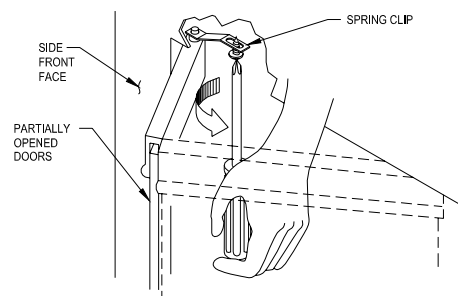

Figure 14 - Adjusting Glass Doors
7. To adjust the doors, slide them partially open. Using a Phillips screwdriver, loosen the hold-down screws on the spring clips (see **Figure 14**).
Note: If the pins do not align into the spring clips, slightly loosen the retaining screw on each clip (see **Figure 14**). Reinsert the panel into each spring clip and align the panel into the lower locating holes. Remove the panel, finish tighten the retaining screws in place and then reinsert the panel again.